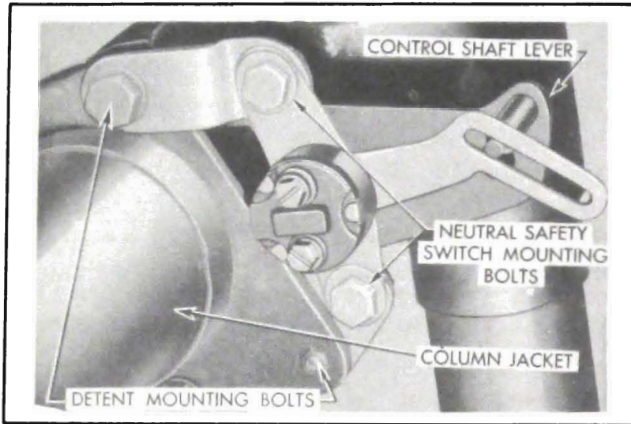

Figure 10-42—Neutral Safety Switch Mounting
9. Loosen neutral safety switch mounting bolts at lower end of steering gear column jacket (fig. 10-42) and raise switch up as far as it will go.